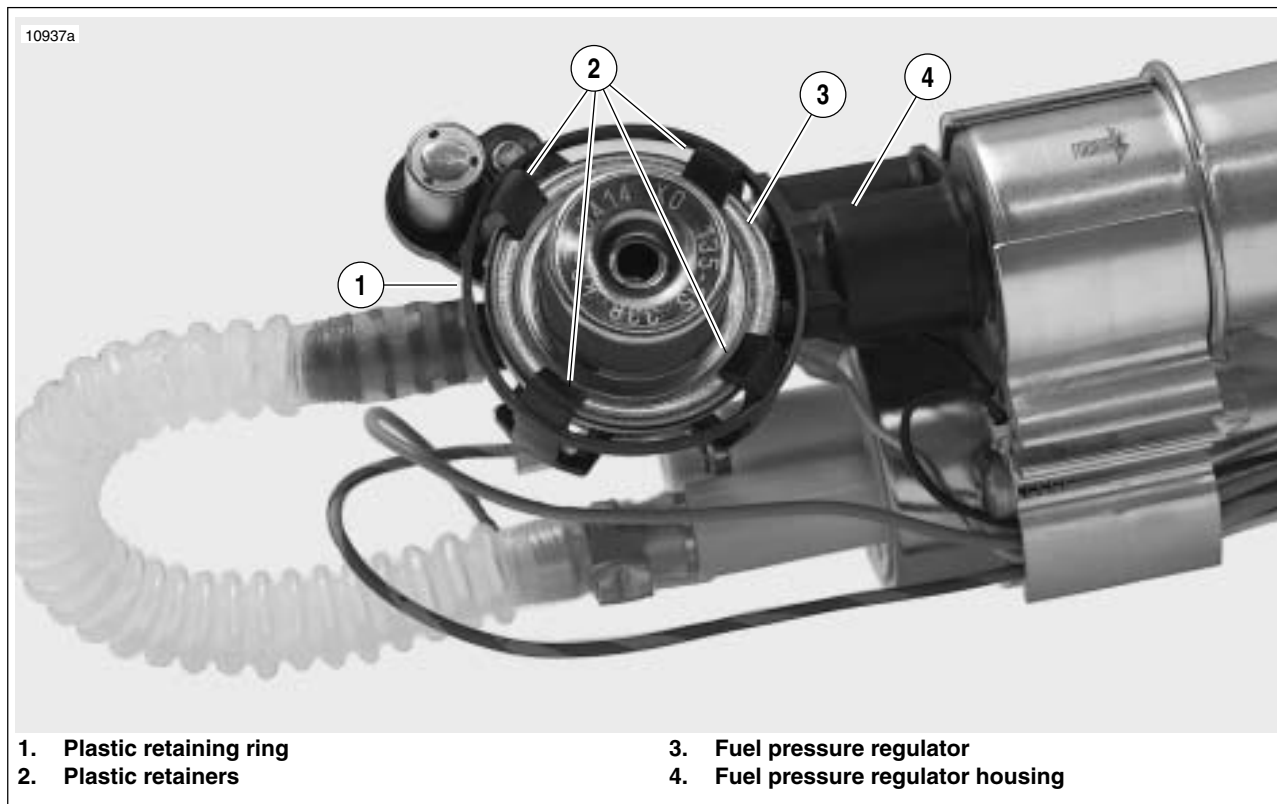

Figure 4-98. Fuel Pressure Regulator
2. See Figure 4-98. Remove the plastic retaining ring (1) securing the four plastic retainers (2) holding the fuel pressure regulator (3) in place. Spread the four clips and detach regulator (3) from regulator housing (4).